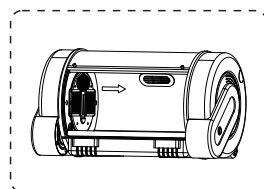

Fig.9.2.4
- Figure 9.2.4, Press Nebulize button on control panel to switch on nebulization, the medical fog will be sprayed through grid and get into the ICU chamber. There are two stages of nebulization treatment timing, in which the basic time is 10 minutes. Once the nebulization process started, it is 10 minutes countdown automatically; pressing the "-" button on the nebulize adjustment button will turn it into 20 minutes mode, pressing the "+" will turn back to 10 minutes mode. Pressing Nebulize button again on the main control panel when the nebulizing process is running will switch the nebulizer off.